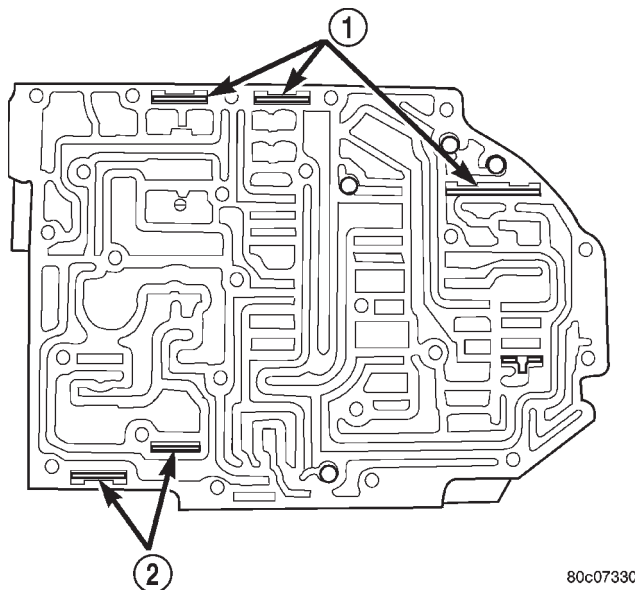

Fig. 136 Valve Retainer Location
(18) Remove remaining retainers as shown in (Fig. 136).